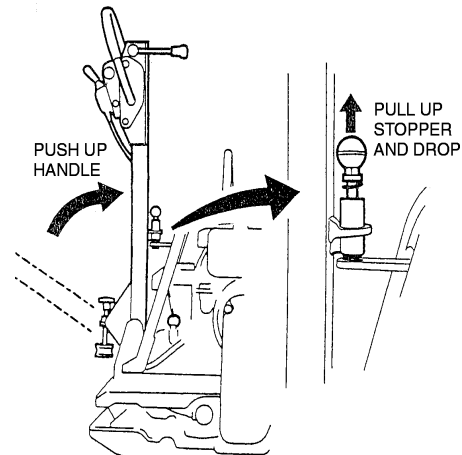

Figure 20. Stowing the Handle
- Push up the handle (Figure 20).